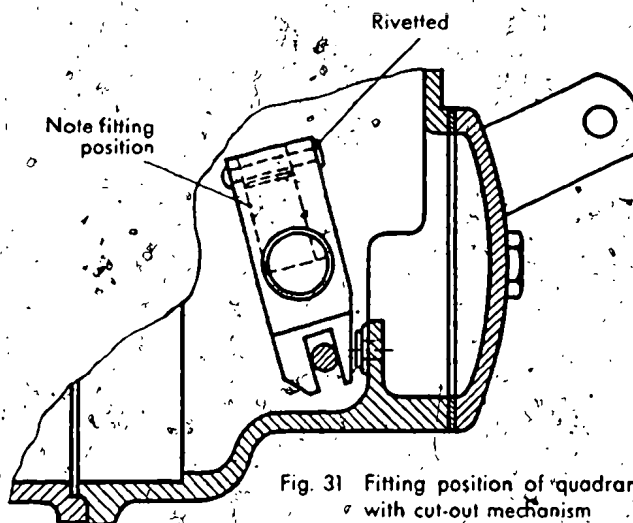

Fig. 31 Fitting position of quadrant lever on governors with cut-out mechanism
If the governor is to be fitted to the other side of the pump, the lever (118) must also be reversed to ensure correct fitting position (Fig. 31). For this purpose remove rivet head (122), rivet, retaining pad (121), springs (120) and spring follower (119) when spindle (117) can be reversed. A new rivet must be used on re-assembly.